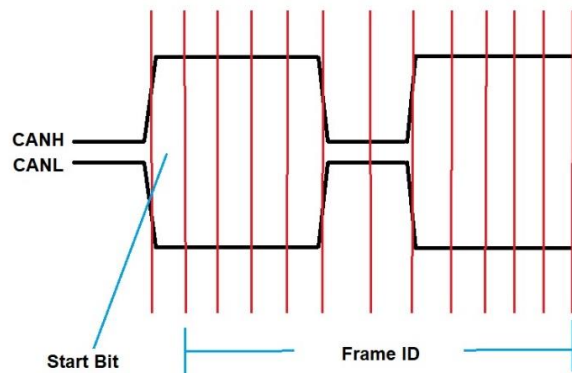

Figure 5. The start of a CAN message and decoding the ID.
6. Identify the start of frame bit (CANH driven high and CANL driven low,) then determine the frame ID. The frame ID indicates which device sent the message, and it will be either 11 or 29 bits. The start of a CAN frame can be seen in Figure 5.